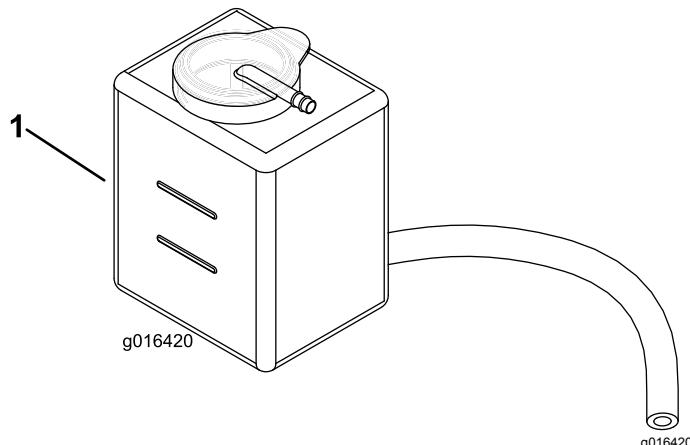

Figure 25
- Check the coolant level (Figure 25). It should be between the lines on the reserve tank when the engine is cold.